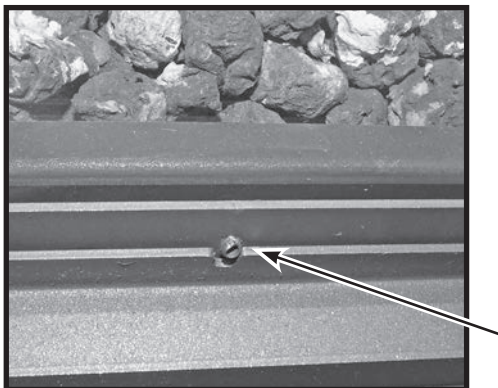

Fig. 50: Glass barrier positioning
2. Align the glass barrier frame laterally so that its protruding positioning stud (Fig. 50) fits into the slot in the firebox. This will line up the bolt slots of the glass barrier frame to the firebox frame.